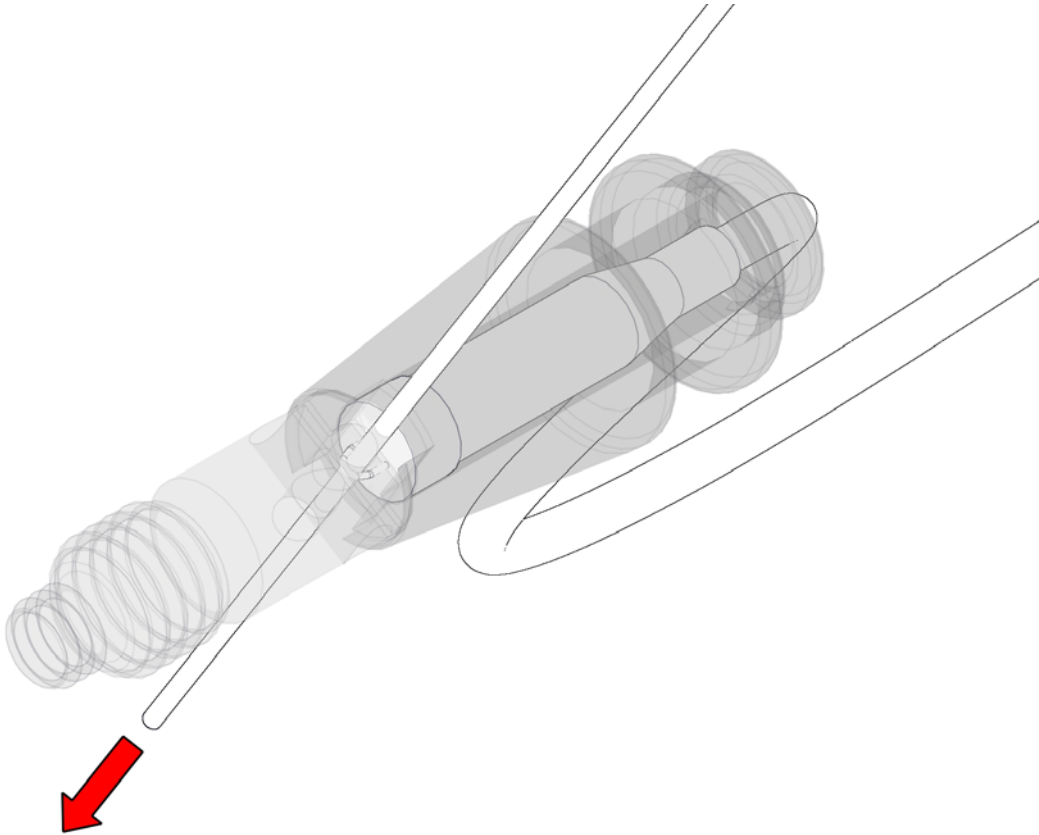

Figure 2-15 Feeding the monofilament.
3. Feed a long sharpened piece of monofilament through the small hole in the threaded stud, under the wire loop, and out of the other side of the threaded stud. Pull the monofilament through until it stops at the cut end (Figure 2-15).